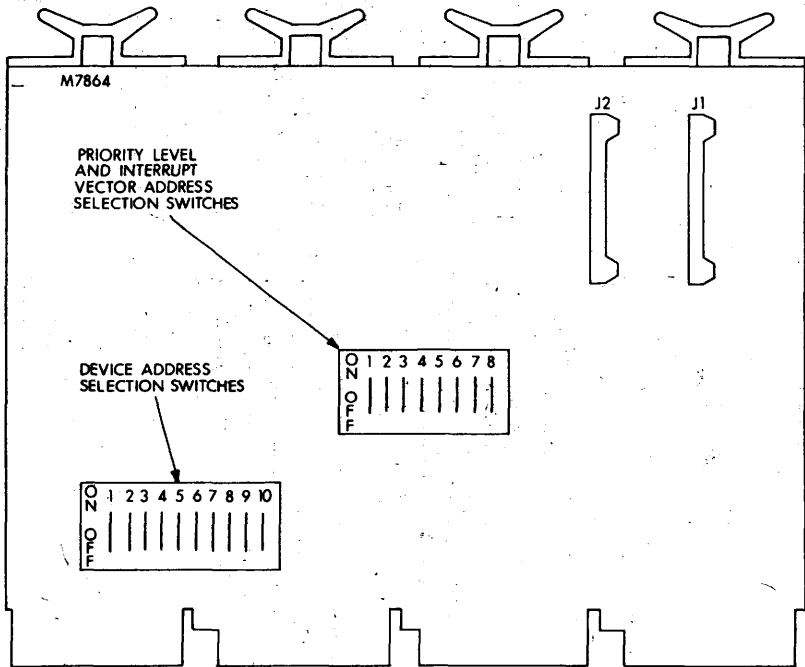

Figure 3 DR11-L Connector and Switch Locations
The main elements of the DR11-L interface module and the data, control, and status signal flow are shown on Figure 3. The module provides the complete interface logic necessary to allow the efficient transfer of data from user's device to the UNIBUS.
**DEVICE SIGNALS**—Data and control signals are transferred between the devices and interface by two cables that attach to connectors J1 and J2. The location of the connectors on the module is shown on Figure 3. Table 1 lists the pin assignments of each connector and the signal drive or loading specification.